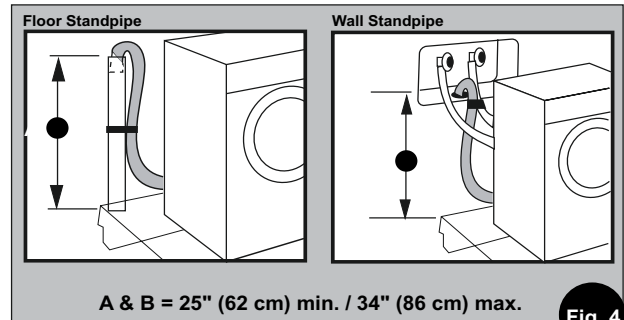

Fig. 4
**Standpipe Drain System** - Installations require a minimum 1 1/4" (3.2 cm) diameter standpipe with a minimum carry away capacity of 7 gallons (26 liters) per minute. Wall or Floor Standpipe Drain System - The top of the standpipe must be between 25" (62 cm) - 34" (86 cm) from the bottom of the washer (Fig. 4).